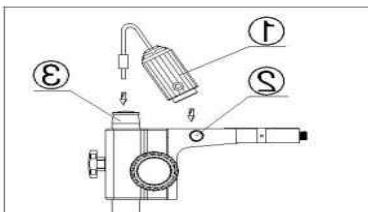

Fig.6
1) Insert the illumination device① in the bracket with the protrudent side toward the lock-screw② and tighten the lock-screw. (Fig.6)
2) Put the plug into the socket of the pillar stand③.